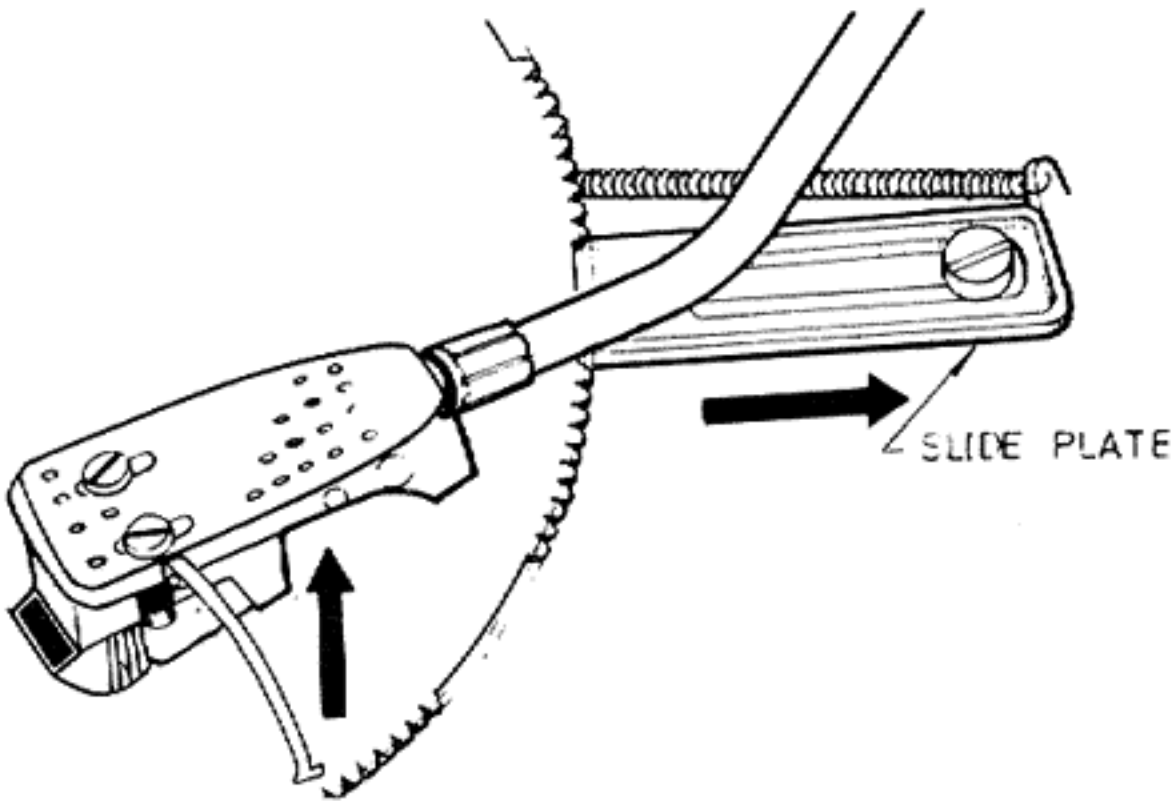

Fig. 9
- 2) The slide plate moves in the direction of the arrow along the cam provided under the gearing to lift up the lifting arm. The pick-up rises automatically. (Fig. 9)